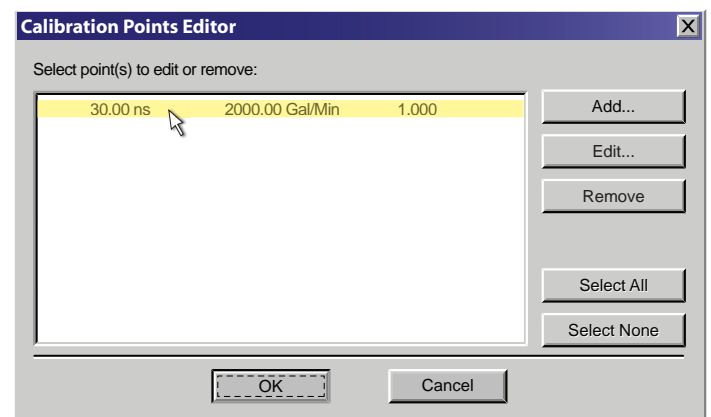

FIGURE 2.9 - CALIBRATION POINTS EDITOR
- 5) If calibration point is displayed in Calibration Points Editor screen, record the information, highlight and click **Remove**. See **Figure 2.9**.